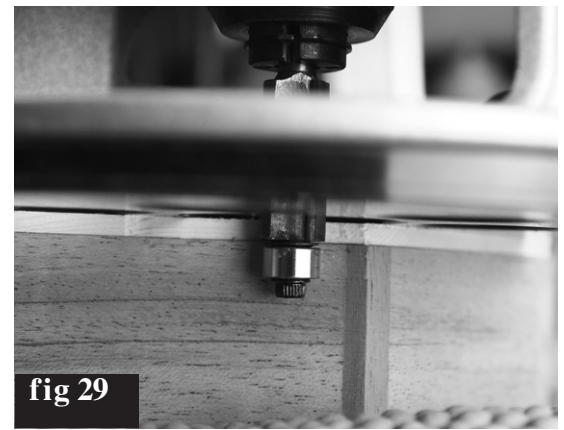

fig 29
29. When the router bit is properly adjusted and tightened, you can rout a ledge around the circumference of instrument. Make sure to move the router in a **CLOCKWISE** direction, just as you did when flush trimming the spruce soundboard (fig 29). We usually make 2-3 passes around the instrument, just to make sure the ledges are fully cut.